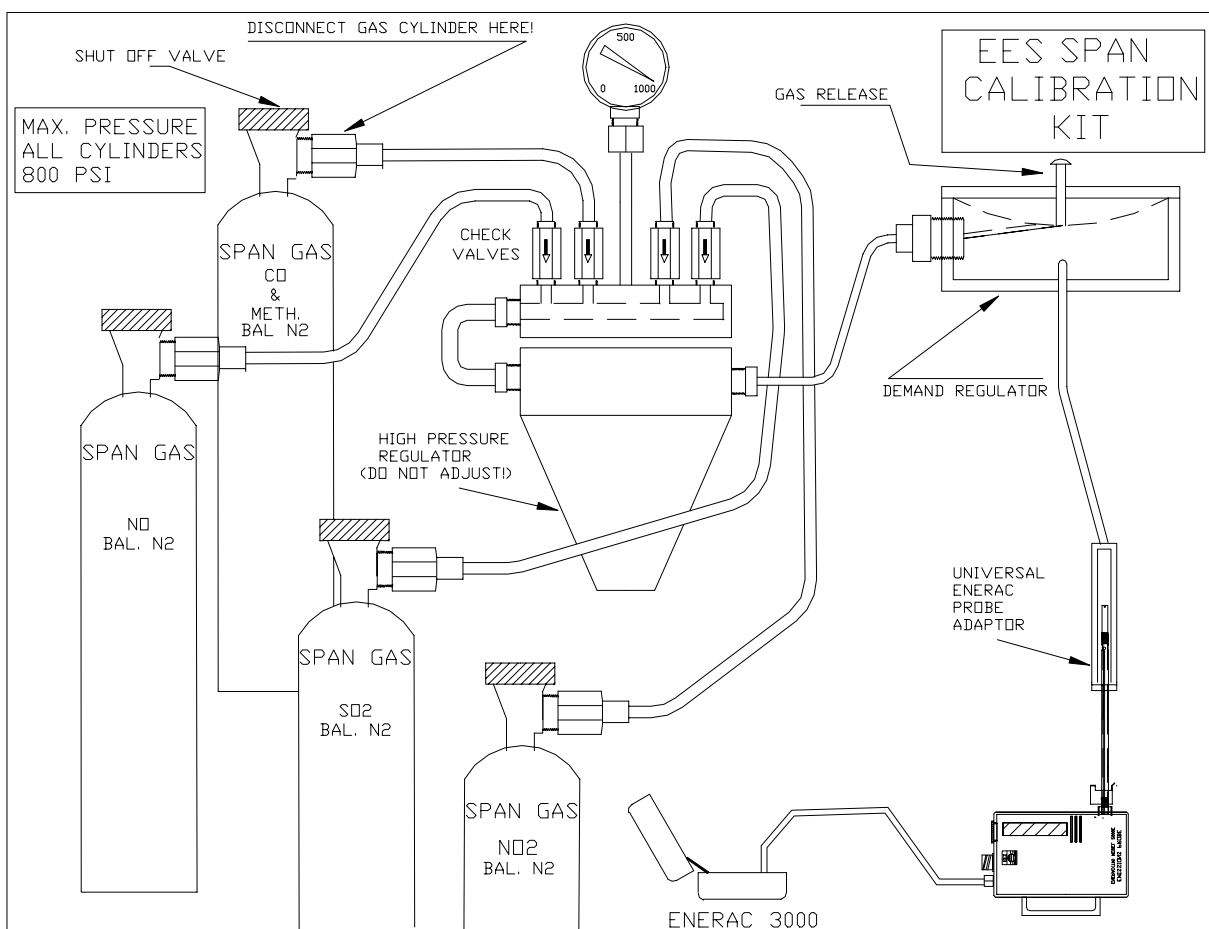

FIGURE 1
Fig.1 shows a complete calibration kit with 4 gas cylinders attached to it, as it might be used to calibrate an ENERAC model 3000. (For the model 2000 Combustion Analyzer the kit contains 3 gas cylinders).
Each cylinder is under high pressure and is equipped with a shut off valve as shown. When the cylinder is exhausted use a wrench to disconnect it at the CGA connector as shown in fig. 1.
Fig.1 shows the typical setup for calibrating the model 2000E /3000.
1. Figure 1 shows the calibration apparatus and also how it is connected to the ENERAC.
Fig.1 shows the typical setup for calibrating the model 3000. It is the same for the model 2000 also.